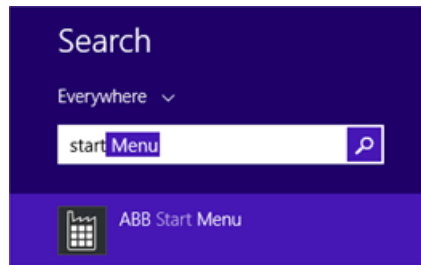

Figure 3. Accessing ABB Start Menu through the Search Window
- the Windows 8 Search window as shown in Figure 3.